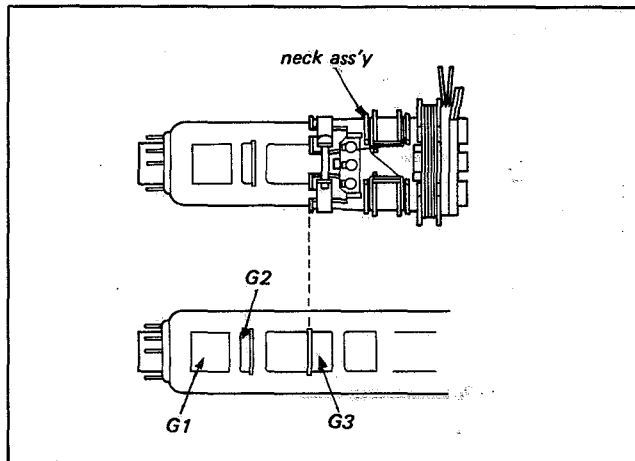

Fig. 2
4. Position neck protector ass'y as shown in Fig. 2.